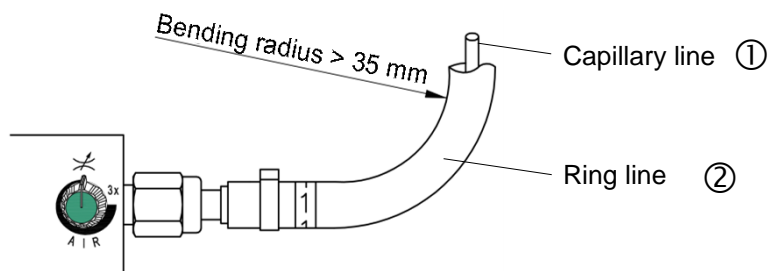

Fig. 4: Coaxial feed line with minimum bending radius
- 4.4 When installing the coaxial feed line (Fig. 4 consisting of ring line ② with integrated capillary line ①), make sure that neither kinking nor cracking (e.g. over sharp-edged sheet metal) can occur and that the line is not routed through the chip area (risk of destruction). The minimum bending radius of 35 mm (Fig. 4) must be observed. Due to the low weight, the coaxial feed lines should be routed in cable ducts as the top layer where possible.